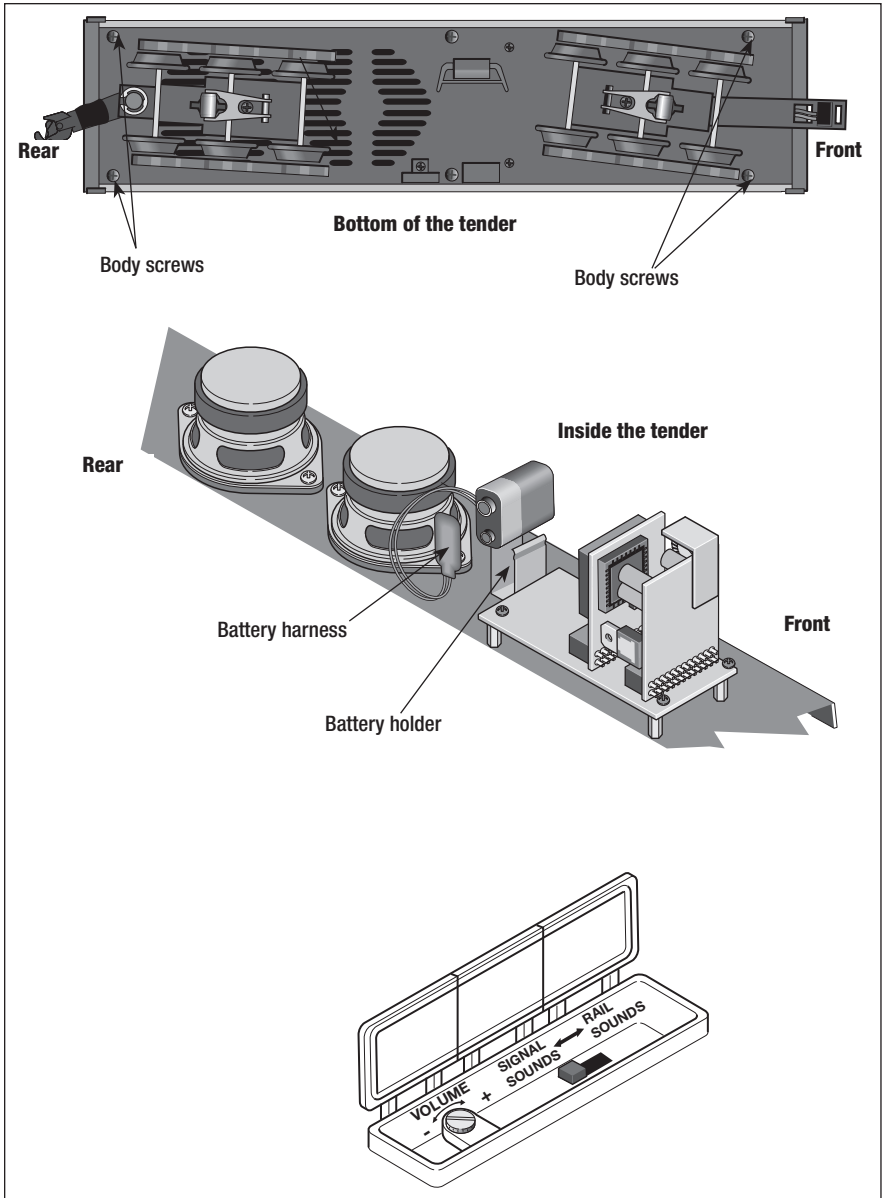

Figure 4. Installing the battery in the tender
Use the **HORN** and **BELL** buttons on your transformer to activate those features. Refer to page 28 if your transformer is not equipped with those buttons. Adjust the volume using the volume control knob located under the tender water hatch. Refer to Figure 4 on page 26.
Although the LEGACY RailSounds sound system is powered through the track, we recommend that you install a nine-volt alkaline battery in the tender to prevent the sound system from shutting down during track power interruptions (for example, at a switch or a dirty section of track). Follow these steps and refer to Figure 4 as you install the battery.
1. Remove the body screws from the underside of the tender. Refer to Figure 4 for the location of the screws.